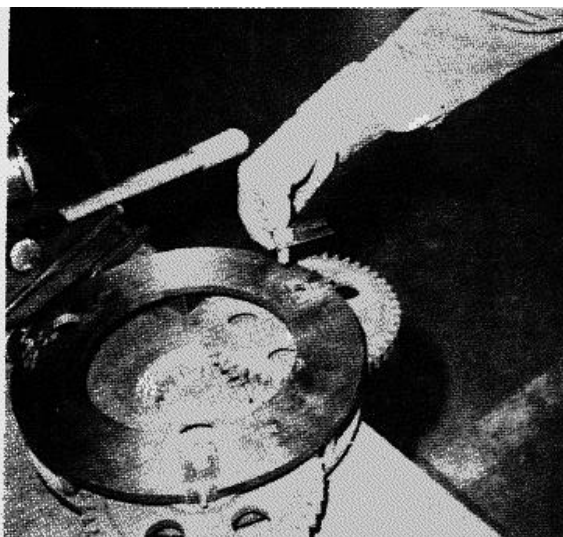

FIGURE 8-14
s. With the planetary pinion gears and carrier properly marked, unlock and remove one pinion gear capscrew, lockplate and spacer (see figure 8-14).